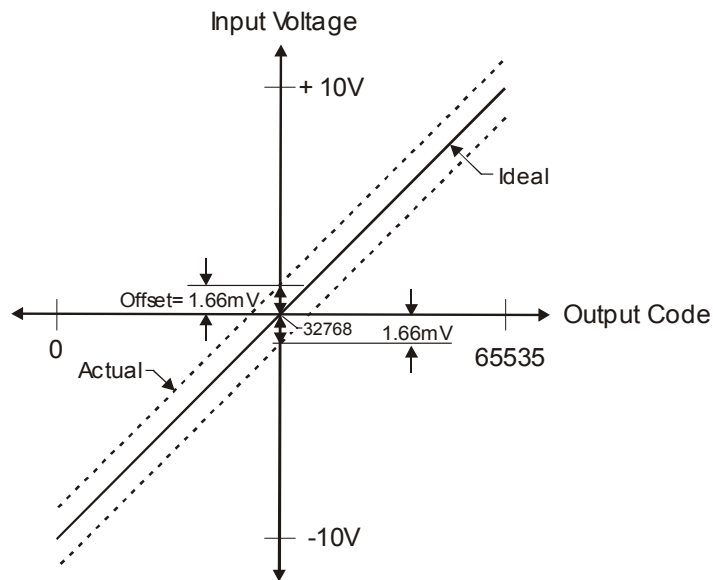

Figure 9. ADC transfer function with offset error
The RedLab 1608FS offset error is measured at mid-scale. Ideally, a zero volt input should produce an output code of 32768. Any deviation from this is an offset error. Figure 9 shows the RedLab 1608FS transfer function with an offset error. The typical offset error specification for the RedLab 1608FS on the  $\pm 10$  V range is  $\pm 1.66$  mV. Offset error affects all codes equally by shifting the entire transfer function up or down along the input voltage axis.
**The accuracy plots in Figure 9 are drawn for clarity and are not drawn to scale.**